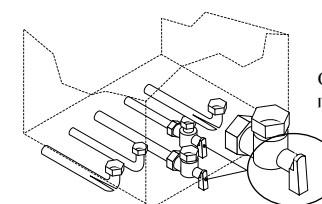

Fig. 2.3
- 1 Check that the taps located in the lower part of the boiler are open (Fig. 2.3).